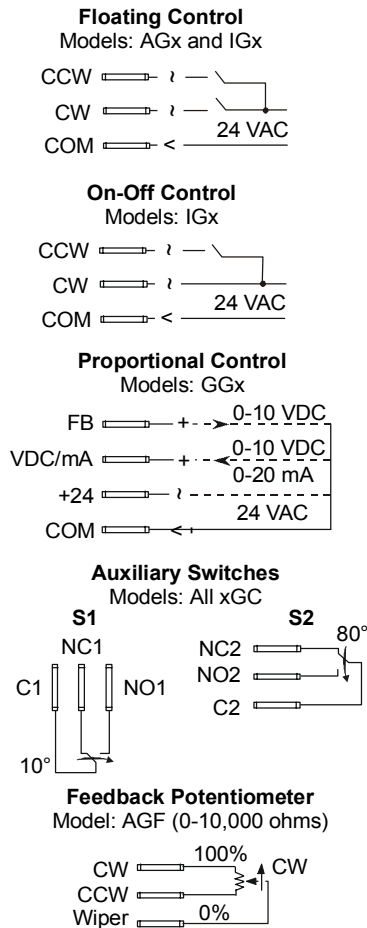

Figure 10: Wiring for M9106 Models
The actuator requires a 24 VAC control signal and is compatible with a variety of controllers. (See Figure 10.)
4. Insert the cable wires through the plastic plug, compression fitting, or conduit fitting, and connect to the terminals using the appropriate wiring diagram in Figure 10.
Note: At this point, the normally closed contact closes, and the normally open contact opens. (See Auxiliary Switches in Figure 10.)
Note: At this point, the normally closed contact opens, and the normally open contact closes. (See Auxiliary Switches in Figure 10.)